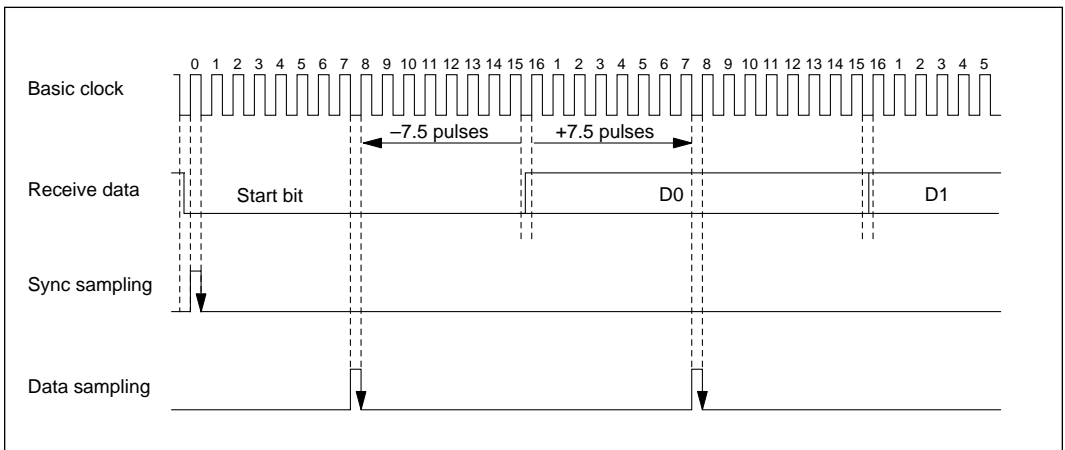

Figure 14-5 Sampling Timing (Asynchronous Mode)
- 4. Sampling Timing and Receive Margin in Asynchronous Mode:** The serial clock used by the SCI in asynchronous mode runs at 16 times the bit rate. The falling edge of the start bit is detected by sampling the RXD input on the falling edge of this clock. After the start bit is detected, each bit of receive data in the frame (including the start bit, parity bit, and stop bit or bits) is sampled on the rising edge of the serial clock pulse at the center of the bit. See figure 14-5.